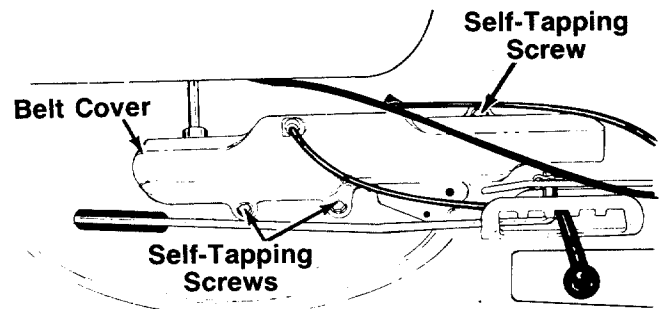

FIGURE 28.
3. Remove the three screws which hold the belt guard (and idler assembly). See figure 28.